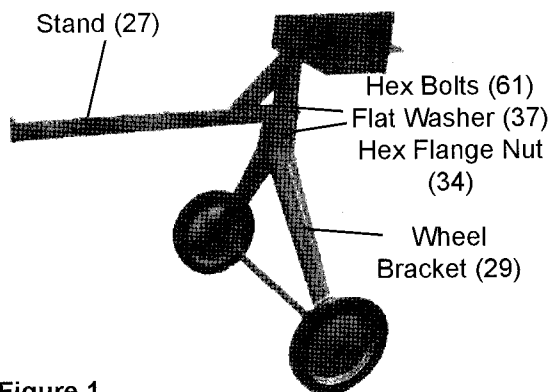

Figure 1
1. Place the Stand (27) into the Triangular Bracket (29) so that bolt holes line up. See Figure 1. **Note:** Set Stand on its side for easier assembly.